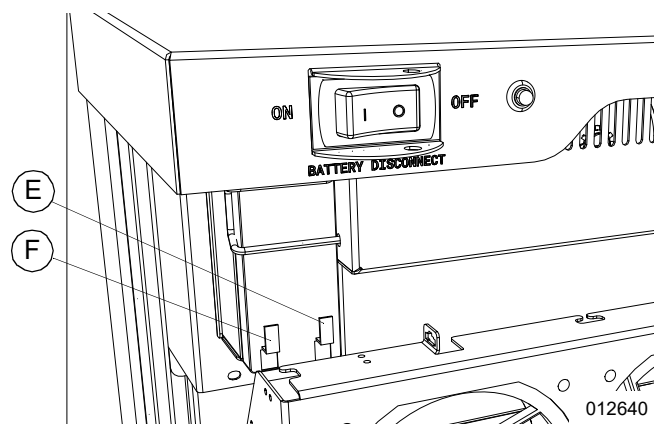

Figure 4-16. Blackstart Battery Connections
See Figure 4-16. Connect blackstart battery lead to positive battery terminal (E).